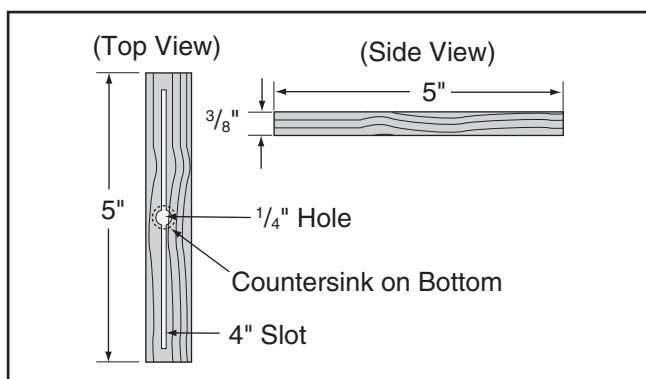

Figure 76. Miter bar pattern.
5. Cut a miter bar approximately 5" long that will fit in table miter slot, as shown in **Figure 76**.